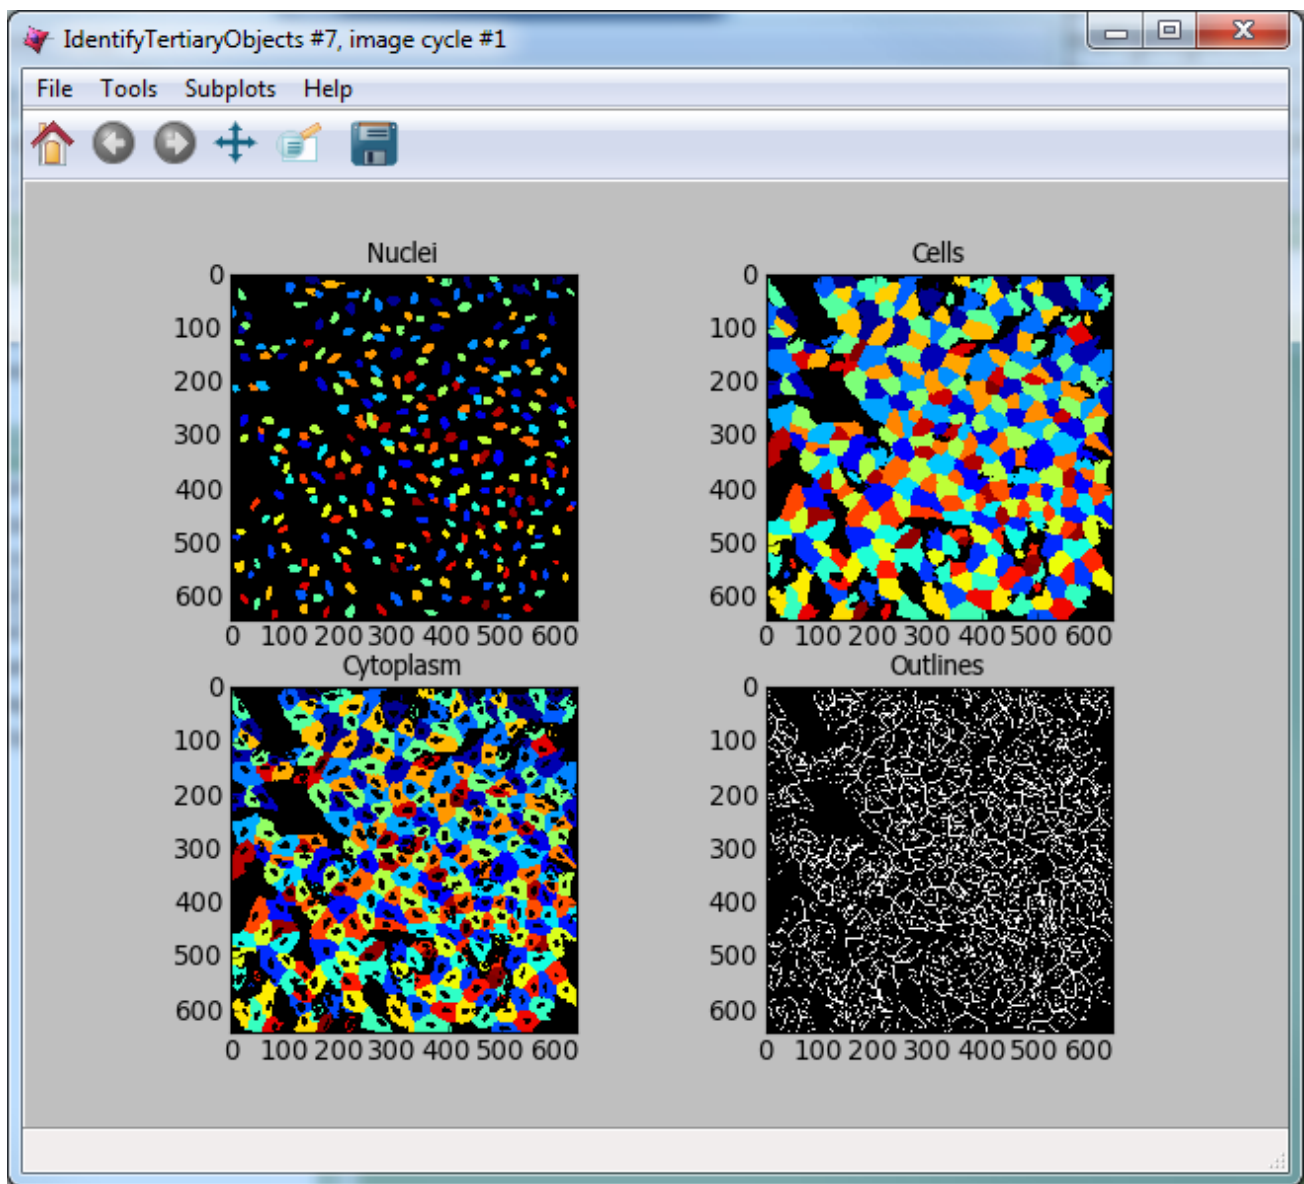

Figure 5: Example module display window for *IdentifyTertiaryObjects*.
- Click the “Step” button to execute the module, and preview the results of tertiary object identification (Fig. 5).